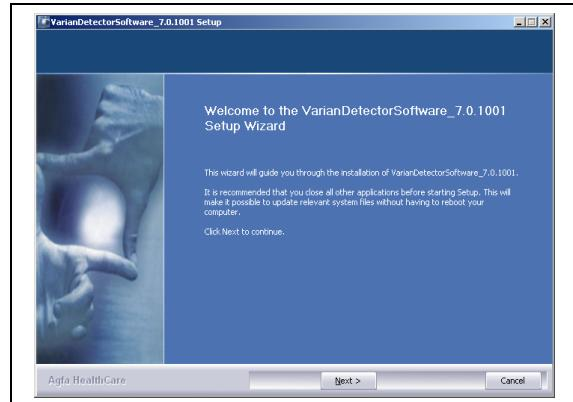

Figure 14
- (1) Copy the compatible Varian installer (e.g. VarianDetectorSoftware_7.5.0300.exe) to e.g. D:\ drive on the NX.
- (2) Double-click the exe file.
- (3) Follow the installation wizard. See Figure 14.